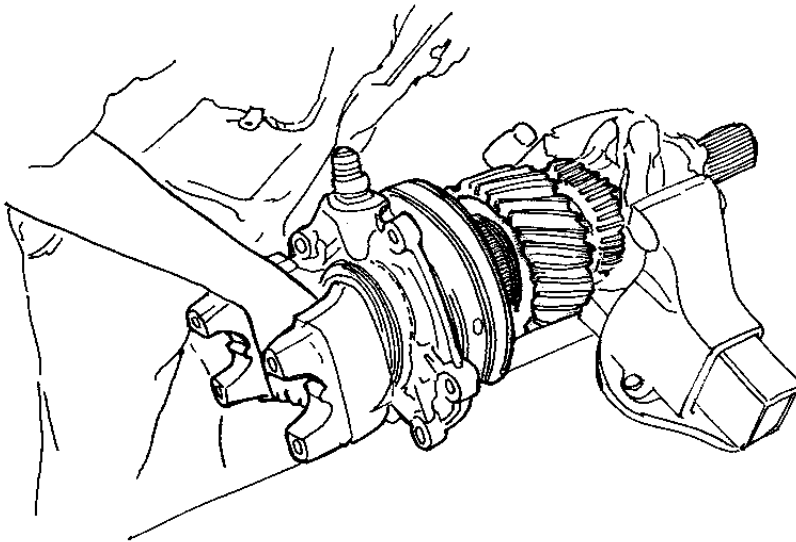

Figure 8 Remove Bearing Cage and Oil Pump Assembly
11. Place the input shaft assembly in a vise with jaw protection and remove the yoke with a puller (Figure 8).
12. Remove input shaft bearing cage and oil pump assembly from the input shaft (Figure 8).